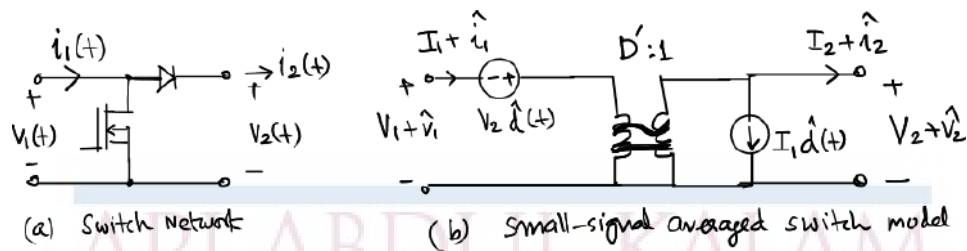

Figure 1.
- 11 (a) A boost converter is operating with an input dc voltage of 100 V. If the operating duty ratio is 0.4 and the operating efficiency is 90%, evaluate the output voltage. (4)
- (b) Derive the steady-state equivalent circuit model of a buck-boost converter operating in CCM, assuming the switch has an on-state resistance of  $R_{on}$ . Neglect all other losses. (10)
- 12 (a) A 100 W output buck converter is having a total power loss of 15 W. If the input voltage is 18 V, evaluate the operating duty ratio if the output voltage is 10 V. (4)
- (b) Develop the steady-state equivalent circuit model of a buck converter operating in CCM, assuming the switch has an on-state voltage drop of  $V_T$ , and the diode has an on-state drop of  $V_D$ . Neglect all other losses. (10)
- 13 (a) Explain the step-by-step procedure to develop the averaged circuit model of dc-dc converters. (4)
- (b) A switch network and its small-signal averaged model is shown in the figure 1 below: Plug this model into the ideal boost converter circuit in place of the switch network appropriately and transform into the canonical model. (10)